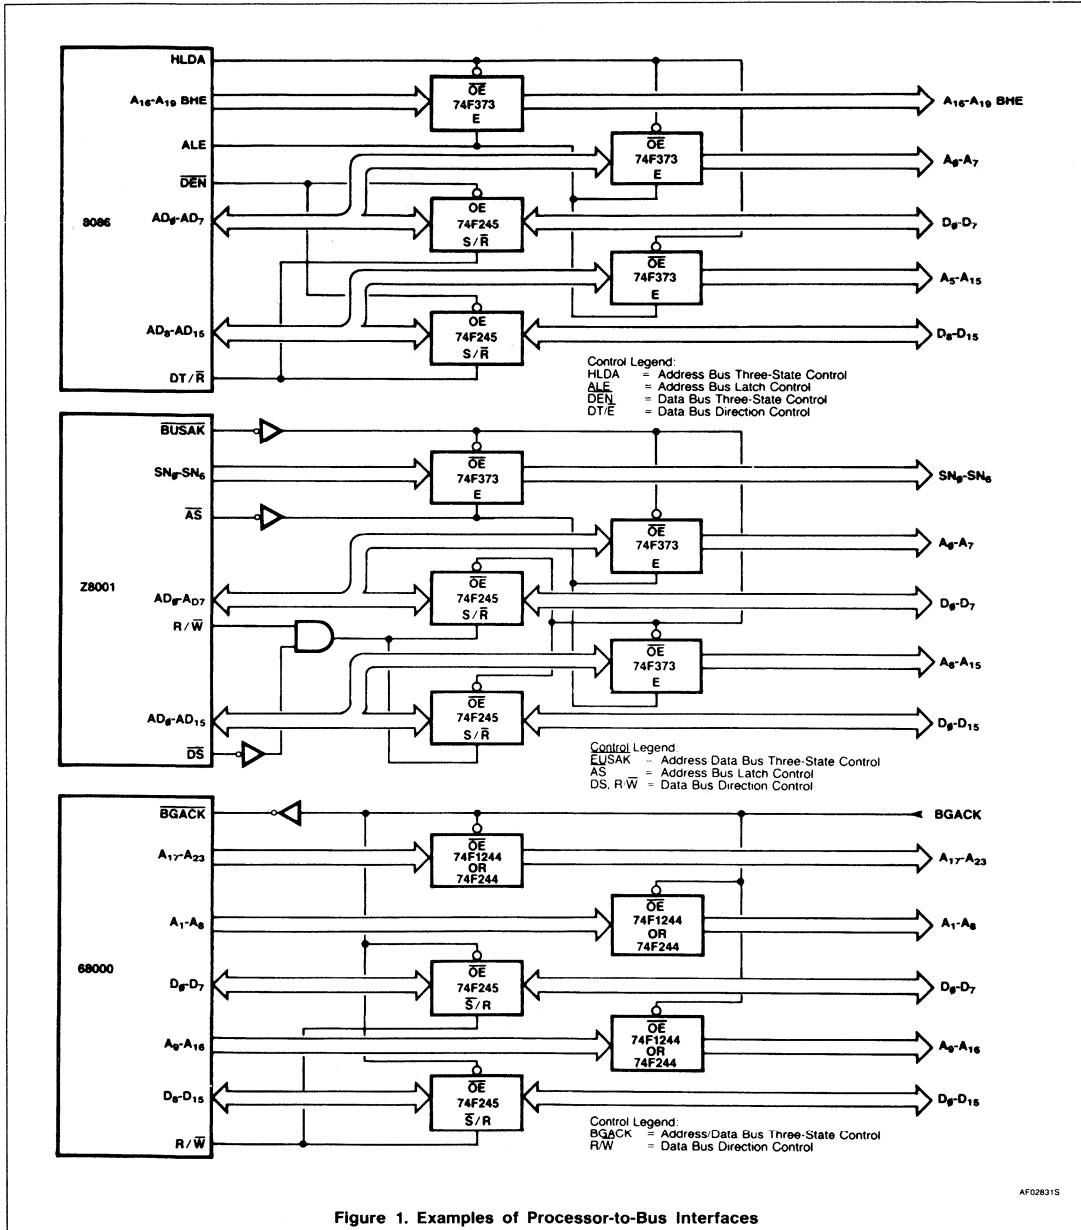

Figure 1. Examples of Processor-to-Bus Interfaces
12. Wrap wire 8-12 times around ferrite core. Leave enough wire to connect to frame and board. See Figure 1.
the Z8001, and the 68000 — are shown in Figure 1. For each processor, the buffer and interface functions are summarized at the bottom of the figure. Although the timing-and-control functions of the interface support circuits are fairly complex, these internal complexities are transparent to the user; only the bus connections and a few control lines are required to achieve the management goals of the system.